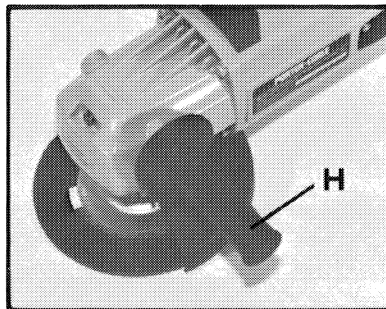

Fig. 2
An auxiliary handle (H) Fig. 2, is furnished with your machine and can be installed on either side of the front housing. This handle SHOULD BE USED AT ALL TIMES to maintain complete control of the machine.